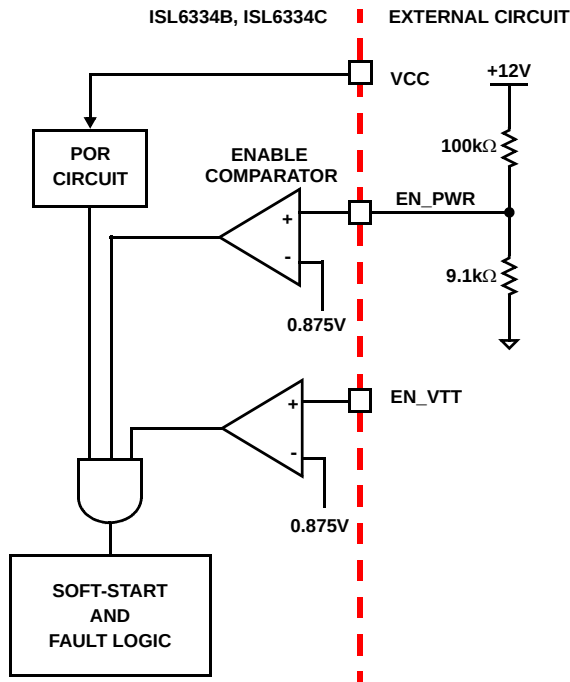

FIGURE 8. POWER SEQUENCING USING THRESHOLD-SENSITIVE ENABLE (EN) FUNCTION
2. The ISL6334B, ISL6334C features an enable input (EN_PWR) for power sequencing between the controller bias voltage and another voltage rail. The enable comparator holds the ISL6334B, ISL6334C in shutdown until the voltage at EN_PWR rises above 0.875V. The enable comparator has about 130mV of hysteresis to prevent bounce. It is important that the driver reach their POR level before the ISL6334B, ISL6334C becomes enabled. The schematic in Figure 8 demonstrates sequencing the ISL6334B, ISL6334C with the ISL66xx family of Intersil MOSFET drivers, which require 12V bias.